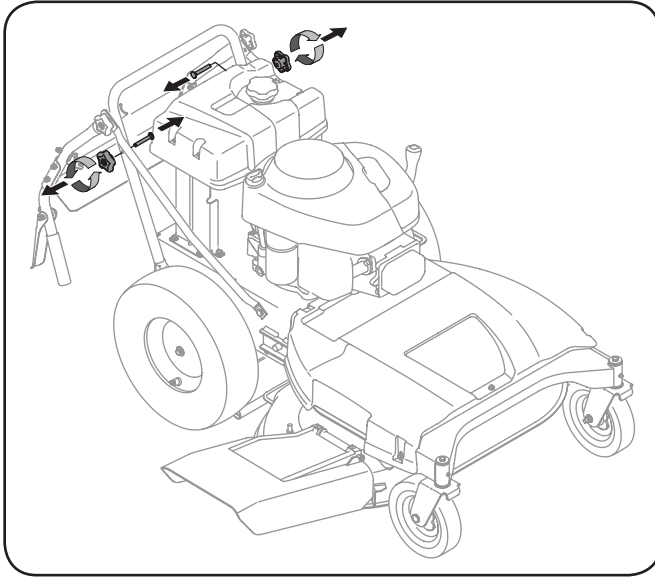

Figure 3-3
1. Remove the star knobs and carriage screws from the lower handle. See Fig. 3-3.